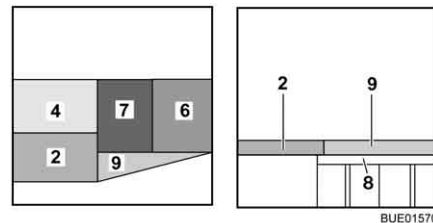

Fig. 155 After conversion
- Place the seat cushion (Fig. 155,7) in the centre.
- Insert the back cushion (Fig. 155,6) between the seat cushion (Fig. 155,7) and the wall.
- Place the additional cushion (Fig. 155,9) on the bed widening.